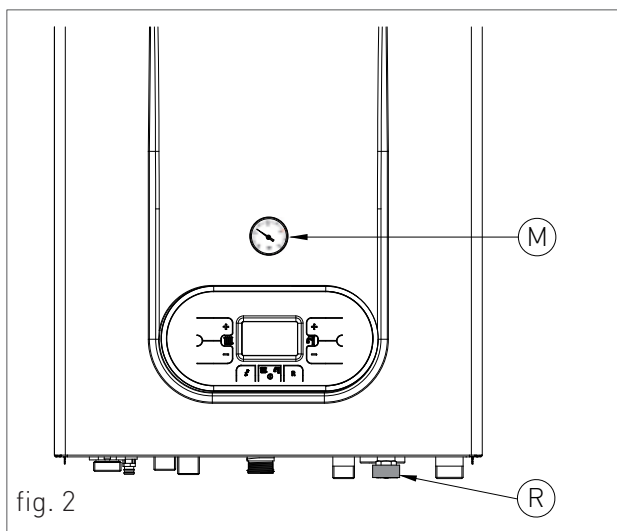
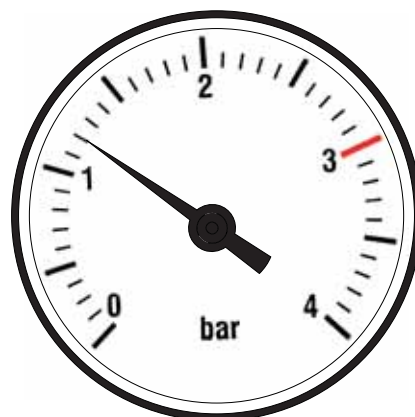

fig. 2
fig. 4
3. open the feeding tap "R" (fig. 2);
5. use pressure gauge "M" (fig. 2) to make sure that the system pressure reaches 1.2 bar (fig. 4);
6. after performing this operation, make sure that the loading tap "R" (fig. 2) is properly closed.
8. if after performing these operations you observe a decrease of the water pressure inside the system, open once again the loading tap "R" until the pressure gauge indicates the value of 1.2 bar (fig. 4)